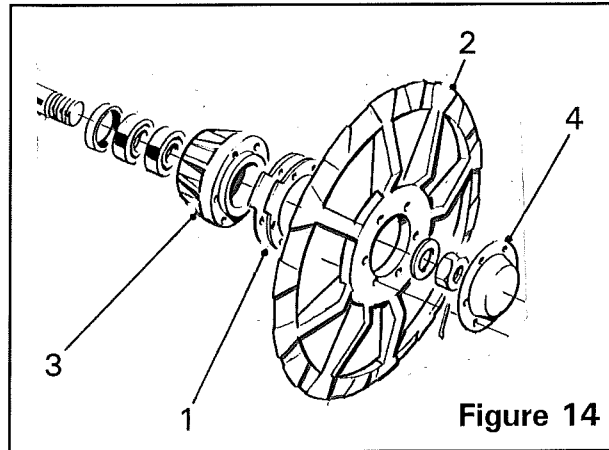

Figure 14
The width between the lifting wheels at the narrowest point is 3.8cm (11/2") to 4.5cm (13/4"). The gap can be adjusted by removing or adding spacers (*item 1, figure 14*) between the lifting wheels (*item 2, figure 14*) and hubs (*item 3, figure 14*).
The lifting wheel spindles are fitted with tapered roller bearings which are adjusted by a castellated nut beneath the hub cap (*item 4, figure 14*). Care should be taken not to overtighten the bearings. Adjust the bearings by removing the split pin and then tighten the castellated nut as much as possible while at the same time slowly rotating the lifting wheel, then slacken off one or two castellations and resecure with a new split pin.